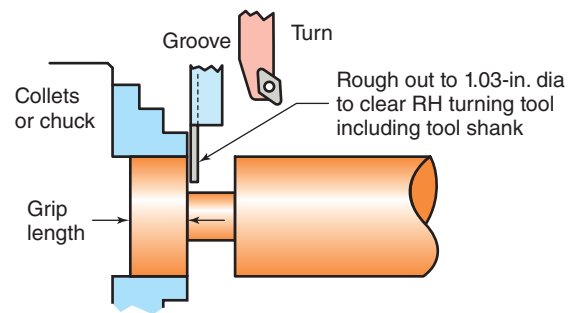

Figure 21-25 Space grooved out to start right-hand turning tool.
- T01 5 Left-hand (LH) turning tool—roughing
- T03 5 Right-hand (RH) turning—roughing
- T07 5 Grooving/turning tool (To open up space for RH turning tool for taper Fig. 21-25)